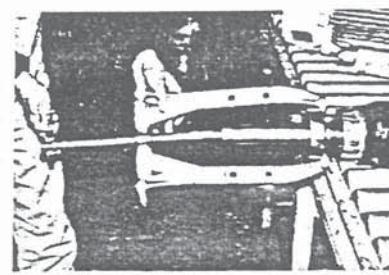

Fig. 8-10
- n) The bearings will be taken away from the shaft by means of a puller. (Fig. 8-10)